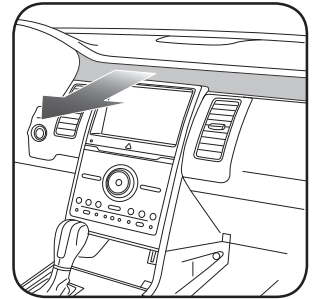
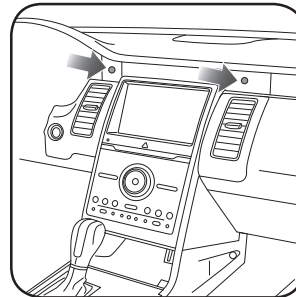

Fig. 1.2
Fig. 1.3
2. Unclip and remove the trim above the radio and glove box. (Fig. 1.2) Remove two (2) 7mm screws behind the trim. (Fig. 1.3)